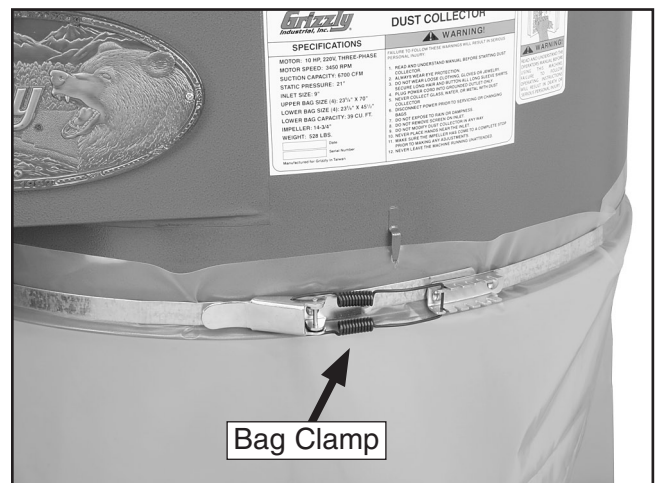

Figure 23. Lower collection bag secured to collector.
18. Wrap the bag clamp around the collector, position it between the bottom lip of the collector and the hooks, and fasten the bag clamp to secure the bag to the collector (see **Figure 23**).